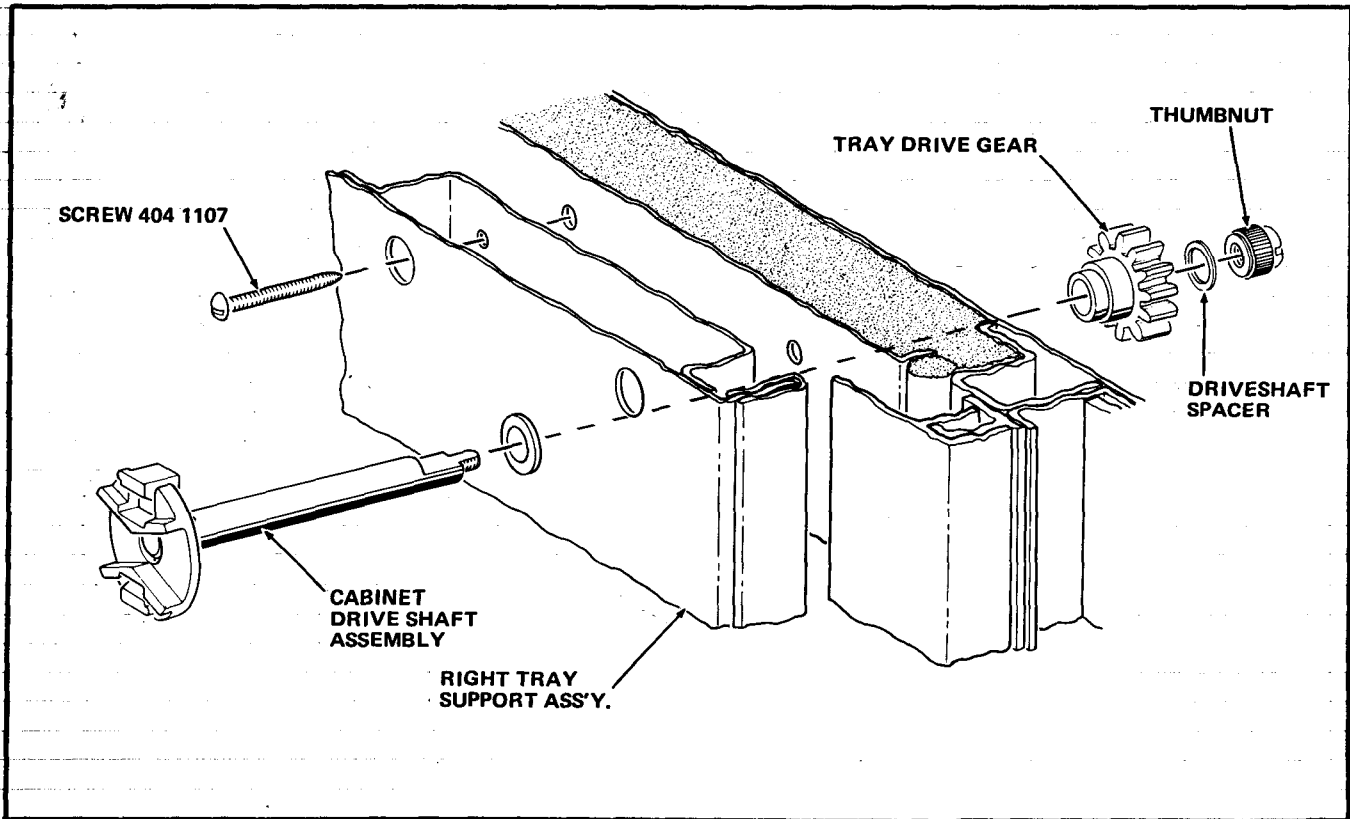

FIGURE 5
21. Remove the Thumbnut, Tray Drive Gear and Driveshaft Spacers, all located on the Left Wall inside the Monetary Compartment, from each of the four Cabinet Driveshaft Assemblies. See Figure 5.
22. Pull the four Cabinet Driveshaft Assemblies out of the Merchandiser. See Figure 5.
24. Remove the eleven Screws attaching the Right Tray Support Assembly to the Cabinet Wall. See Figure 5.
12. Install the Right Tray Support Assembly in the Merchandiser using the eleven Screws removed in Step A-24. Four of these Screw, Part Number, 404-1107, are included in the Kit. See Figure 5.
14. Install the four Cabinet Driveshaft Assemblies, removed in Step A-22, into the Merchandiser. See Figure 5.
15. Attach the Thumbnuts, Tray Drive Gears and Driveshaft Spacers, removed in Step A-21, to the four Cabinet Driveshaft Assemblies. See Figure 5.